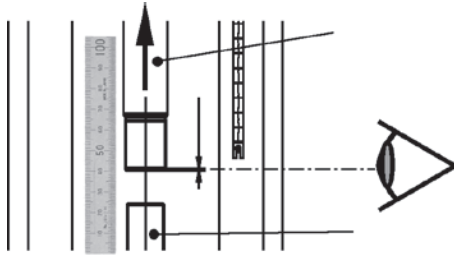

Figure 12
2. Connect manual loading panel tubing to the Top Plate (17).
4. Reconnect manual loading panel tubing from the Top Plate (17) to the Yoke (1), which is integrated into the bottom plate connection.
5. Retract the actuator stem either pneumatically or with a handwheel approximately .1" (2mm) using the visual stroke scale as shown in Figure 12.
2. Connect manual loading panel tubing to the top plate (17).
4. Extend the actuator stem either pneumatically or with a handwheel approximately .1" (2mm) using the visual stroke scale as shown in Figure 12.
5. Assemble the Split Clamp (22).
2. Connect manual loading panel tubing to the yoke (1), which is integrated into the bottom plate connection.
3. Retract the actuator stem either pneumatically or with a handwheel approximately .1" (2mm) using the visual stroke scale as shown in Figure 12.
4. Assemble the Split Clamp (22).